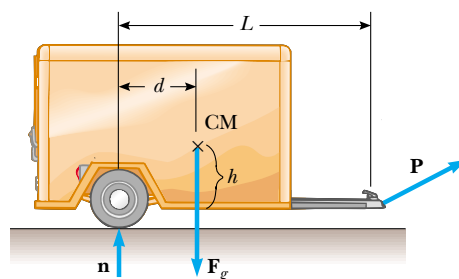

Figure P12.71
71. **Review problem.** A trailer with loaded weight F_g is being pulled by a vehicle with a force \mathbf{P} , as in Figure P12.71. The trailer is loaded such that its center of mass is located as shown. Neglect the force of rolling friction and let a represent the x component of the acceleration of the trailer. (a) Find the vertical component of \mathbf{P} in terms of the given parameters. (b) If $a = 2.00 \text{ m/s}^2$ and $h = 1.50 \text{ m}$, what must be the value of d in order that $P_y = 0$ (no vertical load on the vehicle)? (c) Find the values of P_x and P_y given that $F_g = 1500 \text{ N}$, $d = 0.800 \text{ m}$, $L = 3.00 \text{ m}$, $h = 1.50 \text{ m}$, and $a = -2.00 \text{ m/s}^2$.